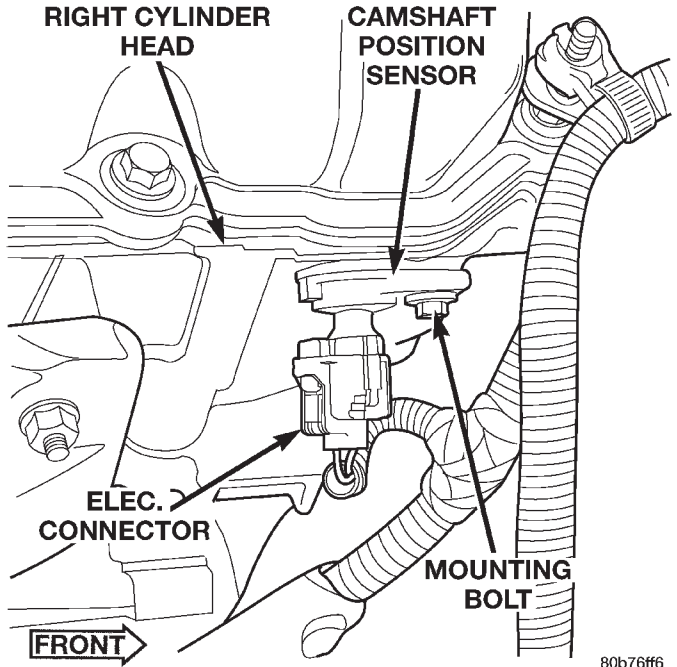
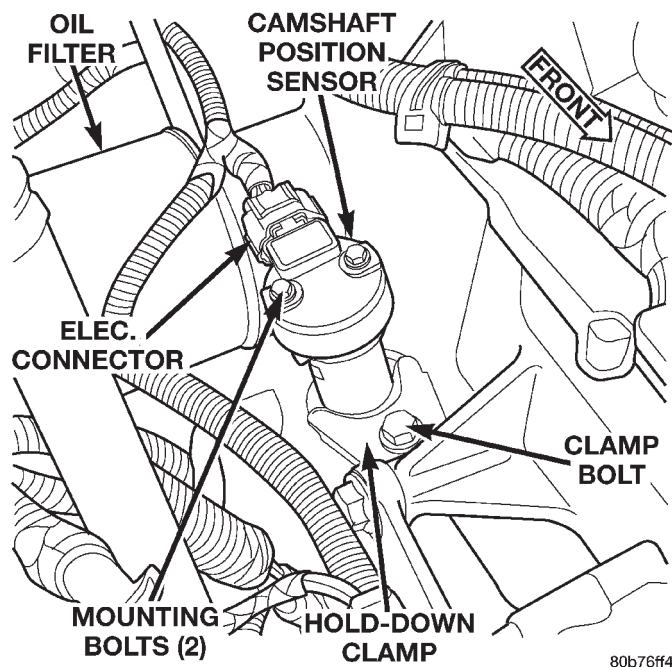

Fig. 7 Camshaft Position Sensor—4.7L V-8 Engine
Fig. 6 Camshaft Position Sensor—4.0L Engine
(5) Verify camshaft position sensor wire connector is firmly connected (Fig. 6) or (Fig. 7).